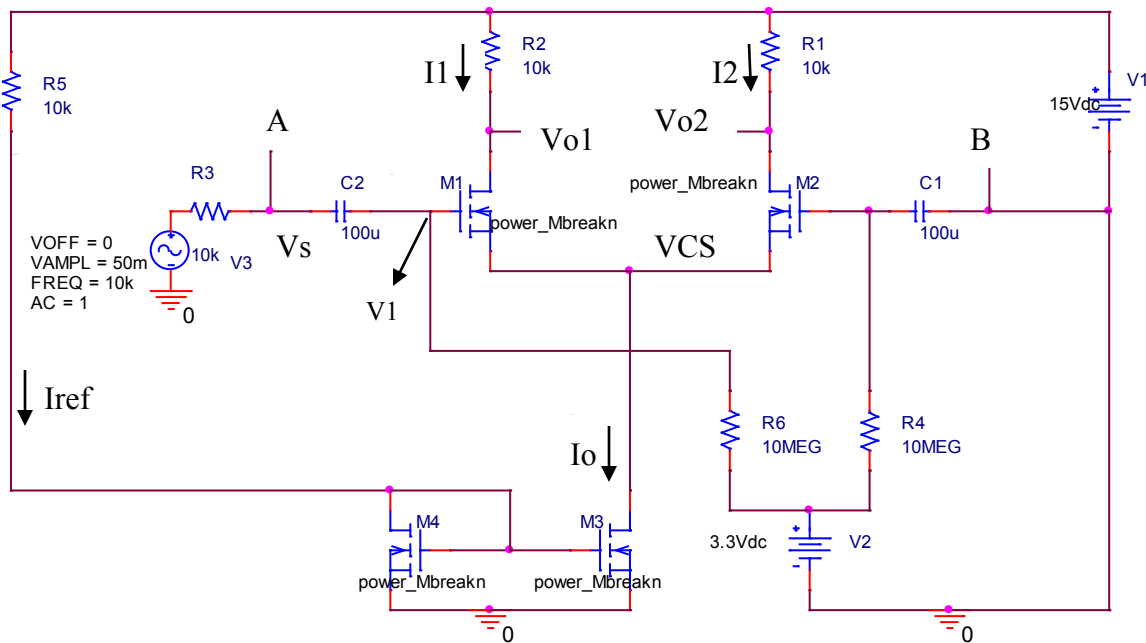

Fig. 4 (MOSFET differential amplifier)
- 1- Employing hand calculations conduct a DC analysis for the circuit in Fig. 4. The DC analysis should be done for each transistor M1, M2, M3, and M4. You need to determine if
- 2- What is the purpose of voltage source V2 in the circuit given in Fig. 4?